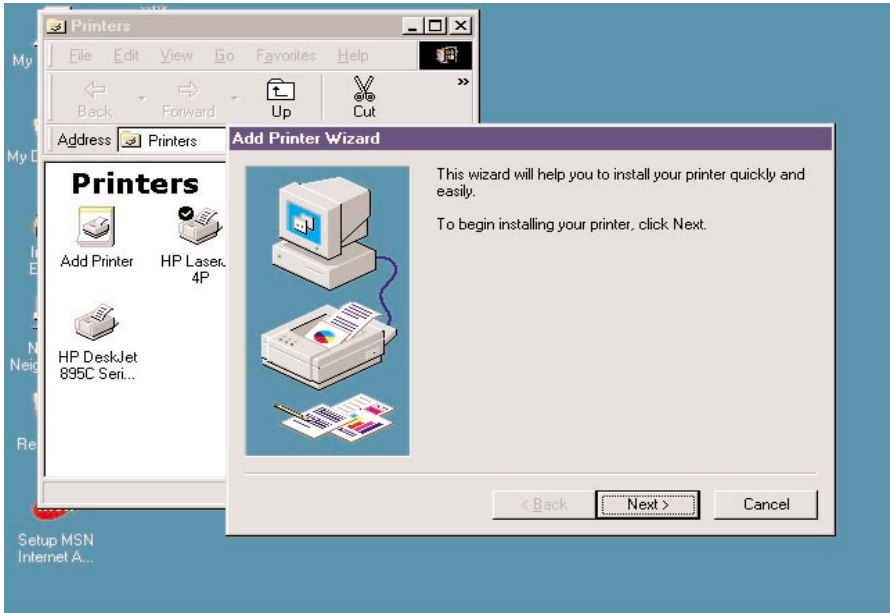
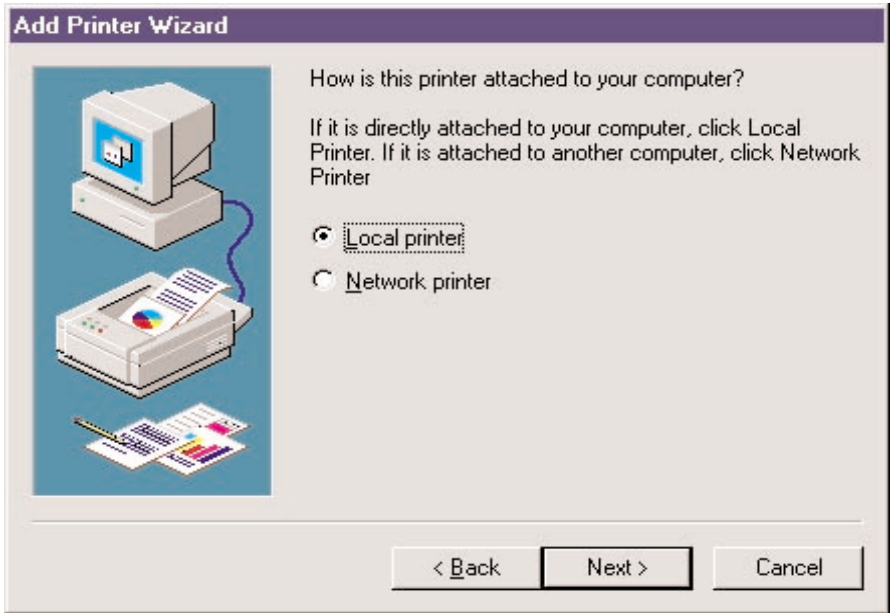

Figure 4-24. Add Printer Wizard screen.
Figure 4-25. Selecting the local printer.
2. Double click on **Add Printer**. Figure 4-24 appears.
3. Click on the **Back** button in Figure 4-24 to go back to the previous screen, or click on the **Cancel** button to cancel the changes. Click on **Next** to start installing a printer. Figure 4-25 appears.